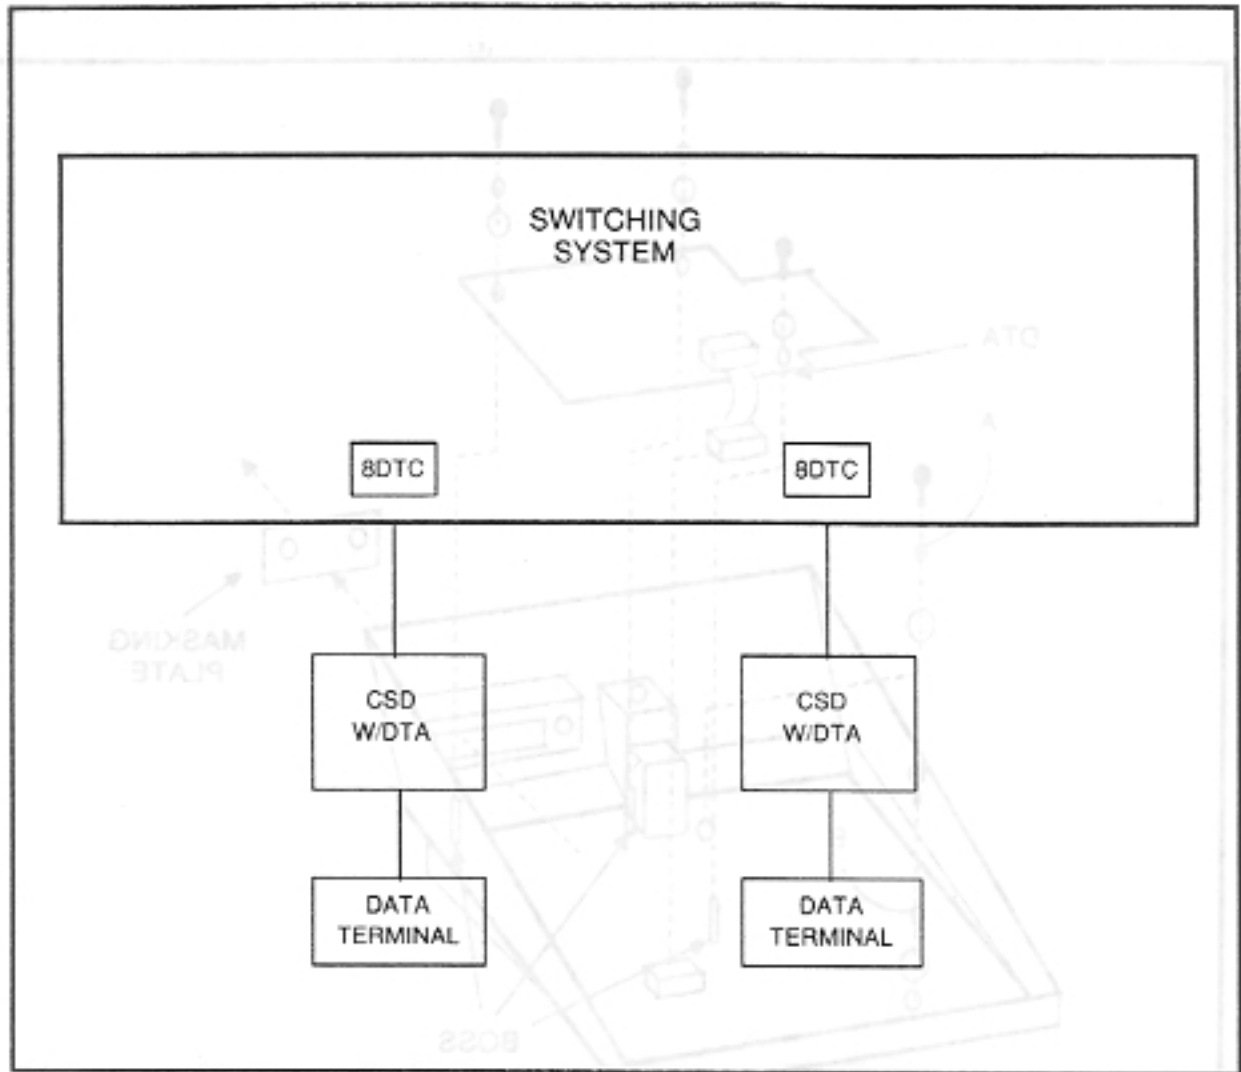

Figure 5.1 Typical CSD with DTA Application Configuration
5.1 This paragraph describes the installation of the CSD telephone equipped with a DTA. The DTA is installed in the CSD and provides an RS-232C connector to be used with terminals, printers, and other data communications-related equipment configured as DTEs (Data Terminal Equipment). The DTA works in conjunction with the system to support switched data calls at a variety of bit rates. Figure 5.1 shows the typical data communications configuration using a DTA equipped CSD. This paragraph covers installation of the following: